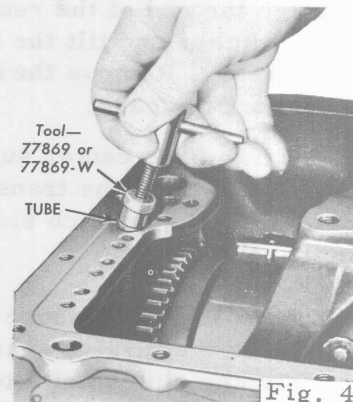

Fig. 4
- ☒ Insert the tube extractor tool in the rear pump discharge tube (Fig. 4). Remove the tube.